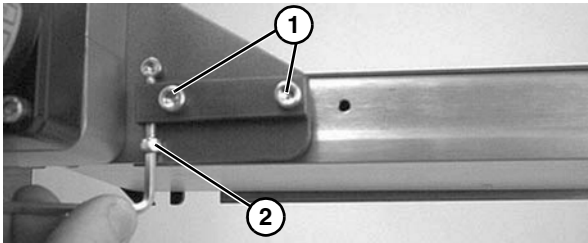

Figure 54
1. Loosen two (2) screws (Figure 54, item 1). Tighten timing belt tensioner screw (Figure 54, item 2) to 15 in-lb (1.7 Nm).
2. Tighten screws (Figure 54, item 1) to 80 in-lb (9 Nm).
1. Loosen two (2) screws (Figure 54, item 1).
2. Loosen timing belt tensioner screw (Figure 54, item 2).
8. Tighten timing belt tensioner screw (Figure 54, item 2) to 15 in-lb (1.7 Nm).
9. Tighten screws (Figure 54, item 1) to 80 in-lb (9 Nm).